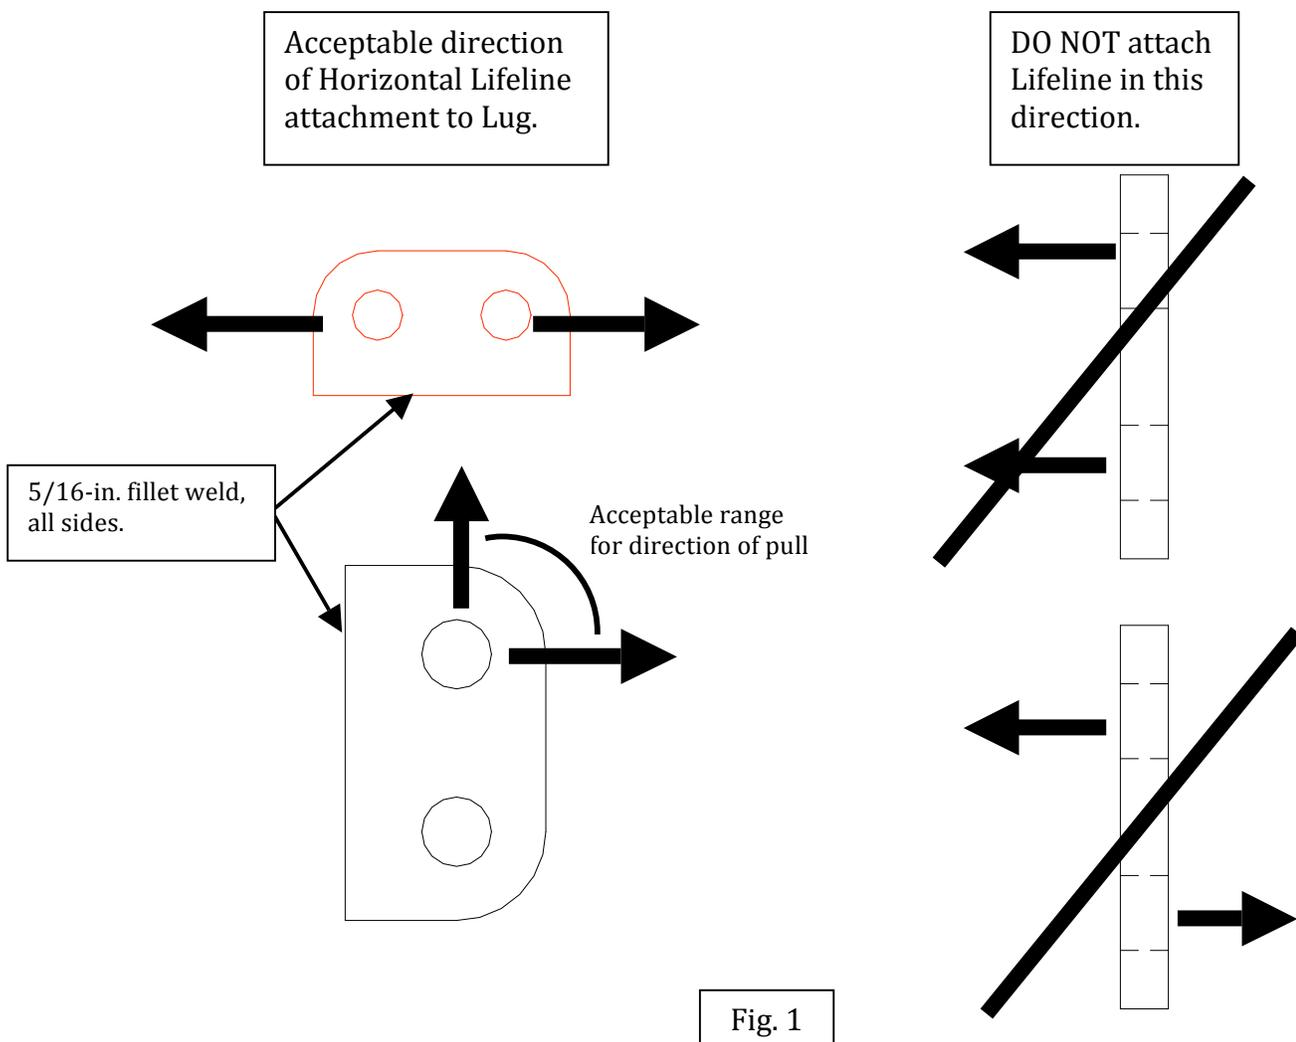

Fig. 1
3. Weld the Lug into place with the Lug in line (parallel) with the horizontal lifeline (see Figure 1). Weld with a 5/16-in. minimum fillet weld using 70,000 PSI minimum strength MIG wire or electrode. DO NOT weld lug in such a fashion that the HLL will side load lug.